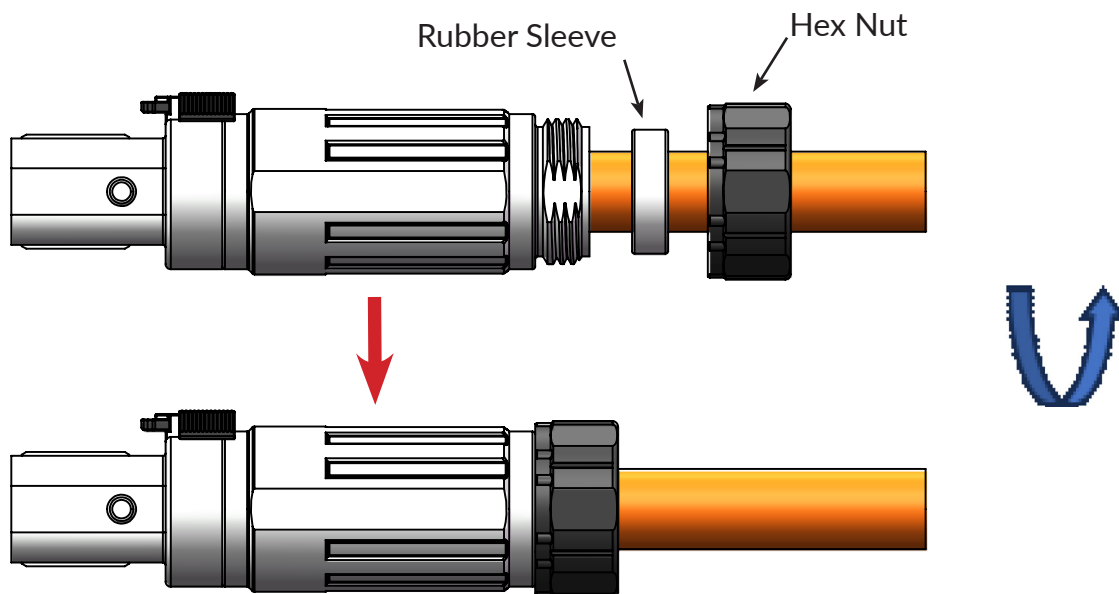

Figure 16
3) As figure 16 shown, tighten the hex nut to adapter shell with 33mm spanner, recommended torque is 4~6N.m, rubber sleeve applicable range see table 9;